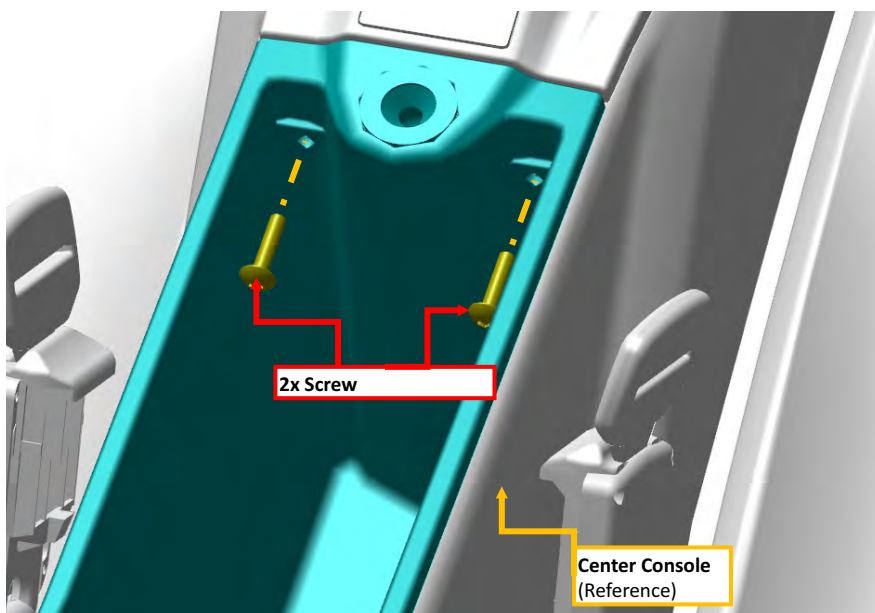

FIGURE 8-3
1. Remove 2X Screws which secure the FWD edge of the center console bucket. Retain all fastening hardware. See Figure 8-3.
4. Install 2x screws which secure the FWD edge of the center console bucket. Apply ICA012078 lubricant and torque to 12 inlbs. See Figure 8-3.